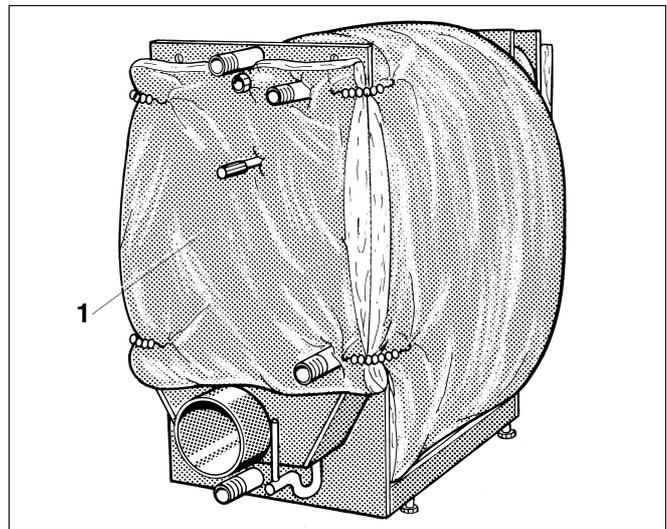

Fig. 6 Secure the rear thermal insulation
- Locate the rear thermal insulation (Fig. 6, **item 1**) in accordance with the recesses in the rear of the boiler and secure on the l.h. and r.h. side of the surrounding thermal insulation using two spring hooks each.